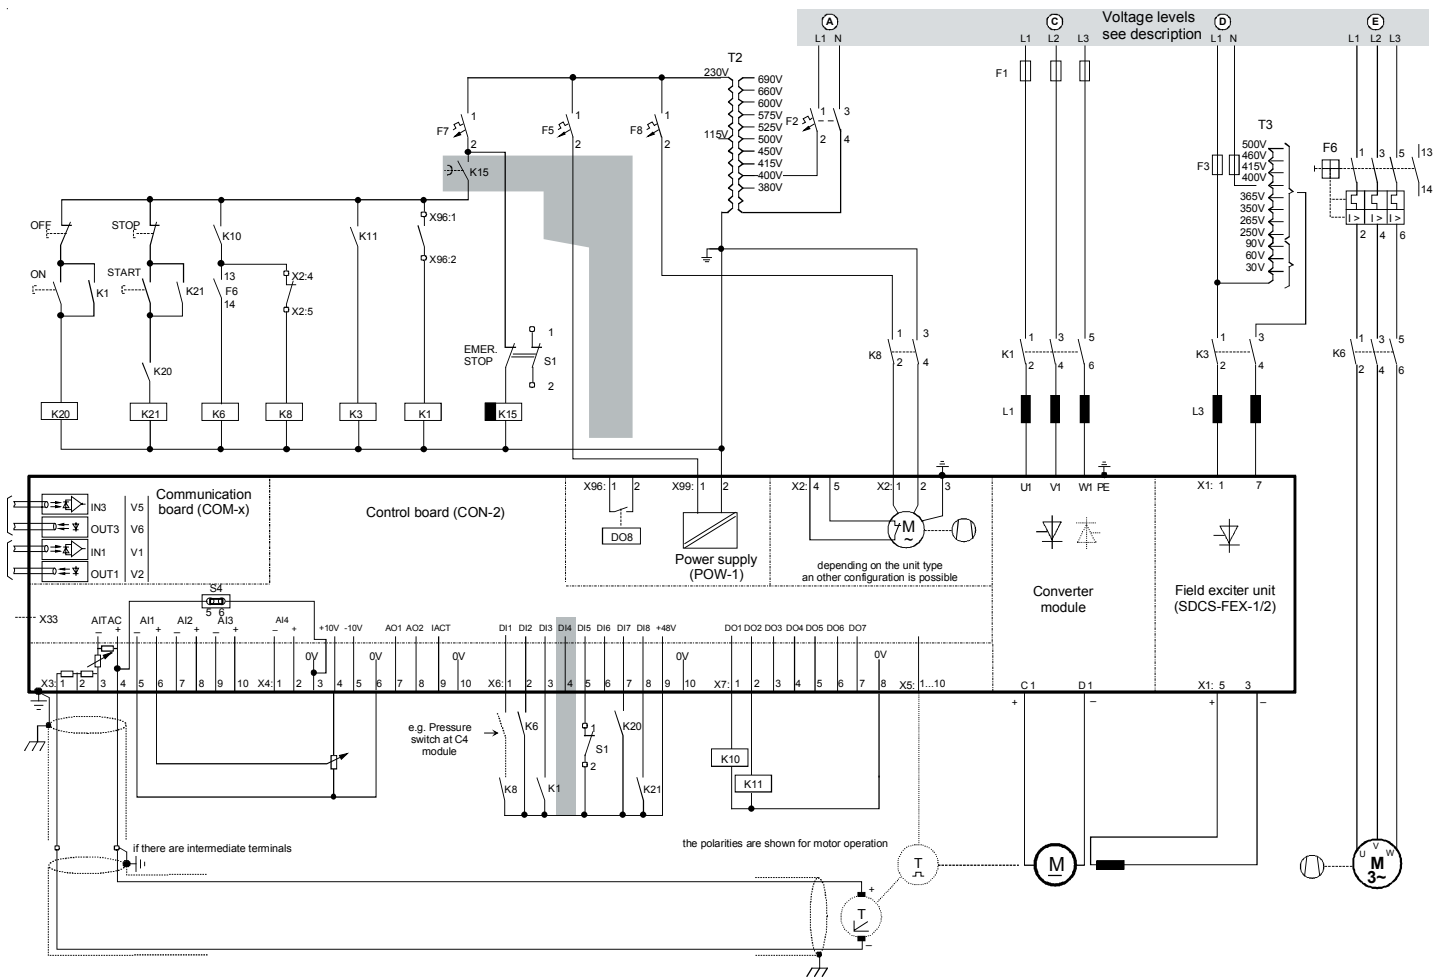
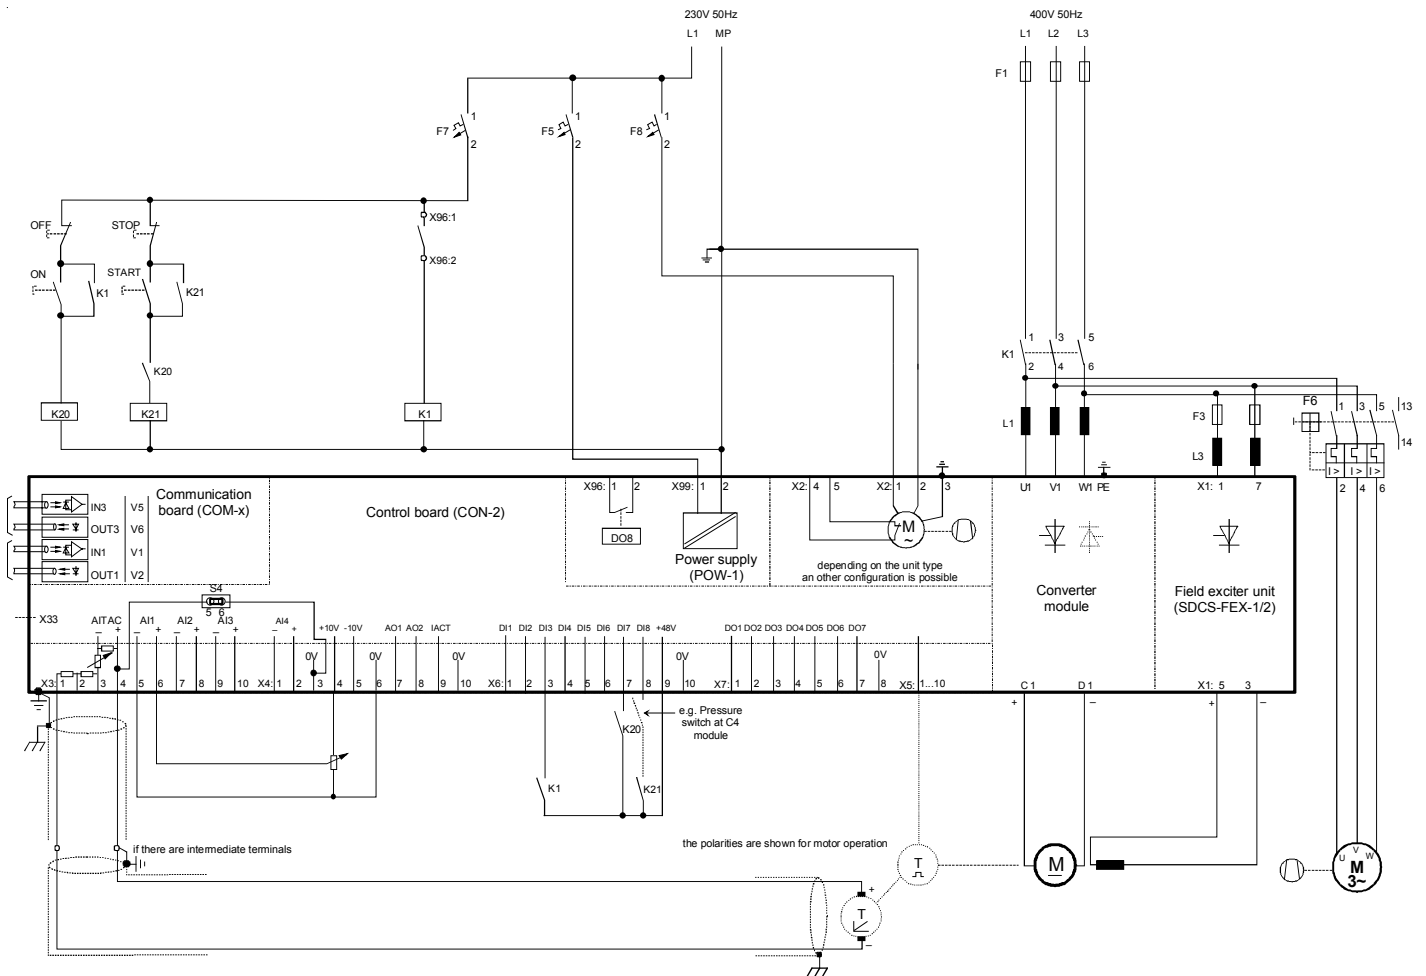

Figure 3.1/1: Standard drive configuration using an internal field
Figure 3.2/1: Drive configuration using the internal field with reduced external components
same as figure 3.1/1
This configuration is basically identical to the one shown at figure 3.1/1. Please check the sizing of F1 for the additional load like field and motor fan. All components are either selected for 230V or set to 230V to be able to combine them and to supply them by an auxiliary power supply. The different consumers are fused separately.
**a:** Generation of the ON/OFF and START/STOP command: same as figure 3.1/1
The main power contactor K1 is handled in the same way it was done at figure 3.1/1. The field and motor fan supply is picked up at the output of K1. So all 3 consumers are controlled in the same way.
This configuration is basically identical to the one shown at figure 3.1/1. In addition to figure 3.1/1 the field supply unit needs an electronic power supply, which is separately fused and taken from the 230V level, generated by T2. This field controller is controlled via a serial link, connected to X16: at the armature converter. The 690V primary tapping can be used together with this type of field supply!
The relay logic can be split into three parts as described in figure 3.1/1. Basically the logic shown at figure 3.2/1 could be used for this configuration. The size of the drive and/or its value may be a criteria to select the logic according to figure 3.1/1 or to figure 3.2/1 or a combination of both.
Basically according to figure 3.1/1. If the converter is supplied directly by a high-voltage converter transformer at point C, make sure that the high voltage switch is not opened, as long as field current flows. Additional conditions are to be considered during engineering of the drive (further information on request).
The relay logic can be split into three parts. Basically the logic shown at figure 3.2/1 could be used for this configuration. Because of the size of the drive and it's value the logic shown is recommended: